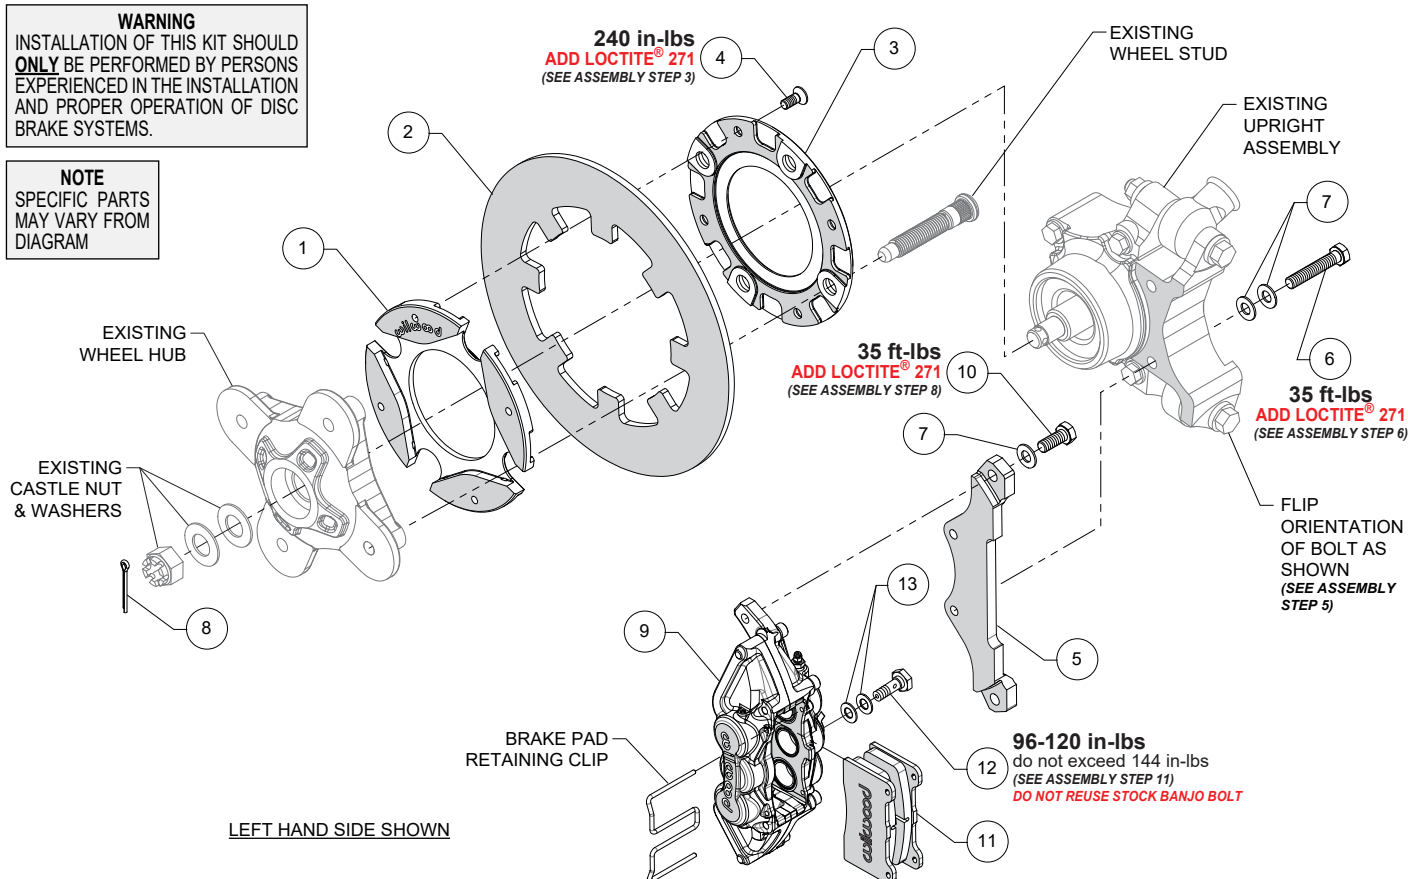

Figure 1. Typical Installation Configuration
NOTE: Numbers in parenthesis refer to the parts list and Figure 1 on the preceding pages.
STEP 2 Place the rotor adapter face down (1) as shown in Photo 1. Position the rotor (2) onto the rotor adapter (1), making sure the rotor lugs fit into the recesses of the rotor adapter, Photo 2, Figure 1.
STEP 3 Secure rotor to the rotor adapter using adapter ring (3) and bolts (4), Photo 3. Apply red *Loctite*® 271 to the bolt threads (4), and torque to value shown in Figure 1.
STEP 4 Place the existing OEM wheel hub face down and position the rotor assembly (1, 2, 3, 4) onto the wheel hub as shown in Figure 1. **NOTE:** The existing wheel hub must be free of dirt and debris or excessive rotor run out may result. Press the OEM wheel studs back in through the rotor lock ring and OEM wheel hub as shown in Figure 1.
STEP 6 Orient the caliper mounting bracket (5), as shown in Figure 1 and Photo 4. Install using bolts (6) and washers (7). Use two washers (7) on each bolt, Photo 4. **NOTE:** The end of each bolt (6) must be flush with or slightly protruding the surface of the caliper bracket. Ensure there is adequate clearance between end of bolt and rotor adapter ring. Apply red *Loctite*® 271 to the bolt threads (6), and torque to value shown in Figure 1.
STEP 7 Grease the splines and outer snout of the existing wheel hub with high temperature grease and slide the wheel hub/rotor assembly onto the axle, Photo 5. Attach using the existing OEM washers and castle nut, Figure 1. Tighten to OEM specifications and secure using cotter pin (8), Photo 6.
STEP 8 Secure the caliper (9) to mounting bracket (5) using bolts (10) and washers (7), Photo 7. Apply red *Loctite*® 271 to the bolt threads (10), and torque to value shown in Figure 1.
STEP 9 Remove the pad retainer clip from the caliper (9). Insert the brake pads (11) into the caliper with the friction material facing the rotor, as shown in Photo 8. Reinstall the pad retainer clip, Photo 9.
STEP 11 Attach brake line to caliper. Orient brake line as shown in Photo 9 and connect to caliper using banjo bolt (12) and crush washers (13). Do not use lubricant or thread sealant on banjo bolt (12). Torque to minimum value shown in Figure 1. Check for leakage, increasing torque only to stop leakage without exceeding maximum specification. Replace crush washers and banjo bolt whenever reassembly is required. **Ensure hoses are routed to prevent contact with moving suspension, brake or wheel components.**